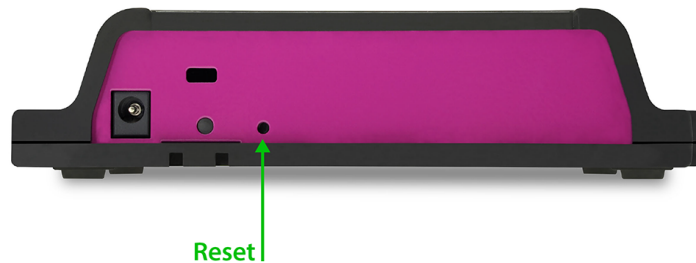

Figure 5.2: Reset button
- By briefly pressing the **reset button** on the device it toggles between static and automatic IP addresses. By pressing and holding the reset button (see figure 5.2) on the device for 3 seconds, it will reconfigure the unit to the factory default IP address and subnet mask. No other settings